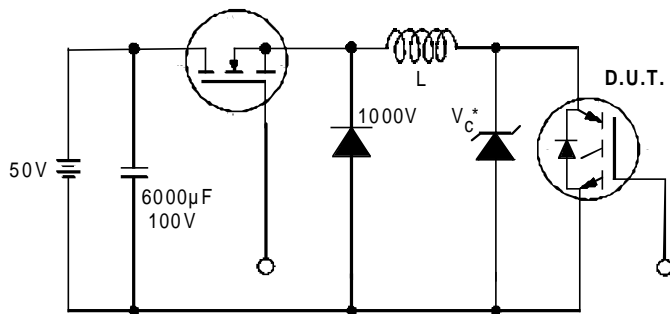

Figure 19. Clamped Inductive Load Test Circuit
- ② $V_{CC}=80\%(V_{CES})$, $V_{GE}=20V$, $L=10\mu H$, $R_G = 22\Omega$ (figure 19)
- ③ Pulse width $\leq 80\mu s$; duty factor $\leq 0.1\%$.
- ④ Pulse width $5.0\mu s$, single shot.